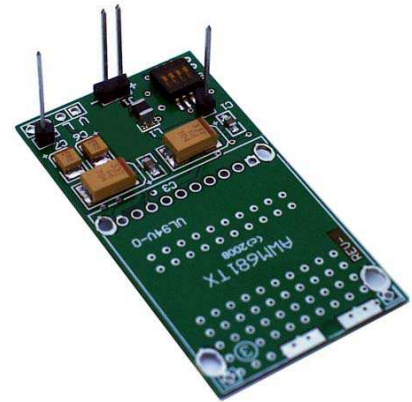

Figure 5, Stand-Off Posts
5 SIDE ③, POST INSTALLATION: See Figure 5.